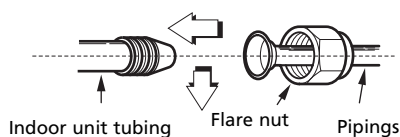
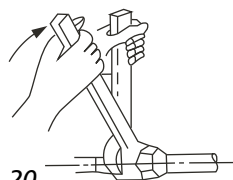

Fig. 19
Fig. 20
- Sufficiently tighten the flare nut with fingers, and then tighten it with a spanner and torque wrench as shown (see fig. 19 and fig. 20).